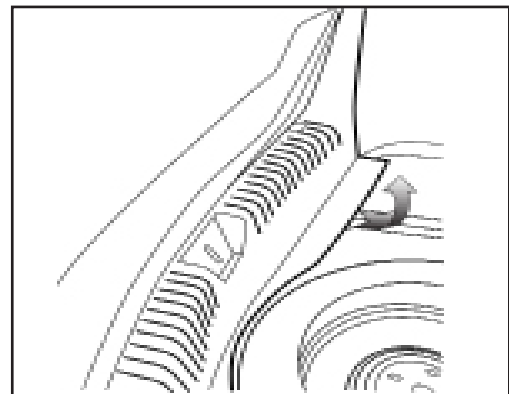

Fig. 3
7. Remove the trunk sill plate by lifting up with your hands to disengage the clips. (Fig. 3)